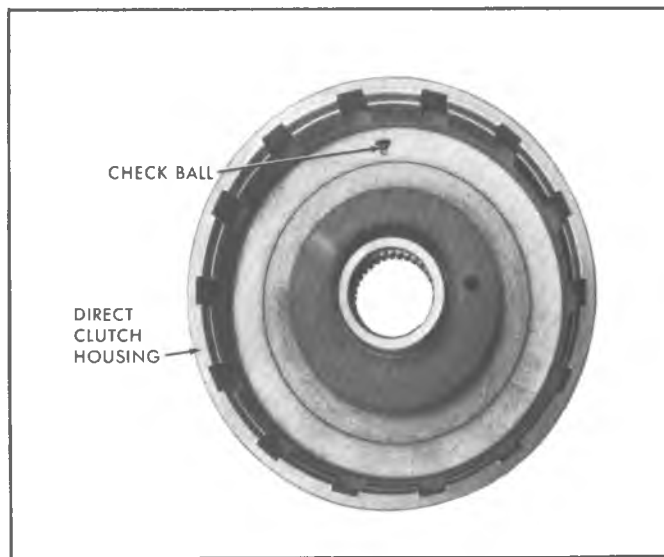

Fig. 10B—Direct Clutch Housing
**CAUTION:** *Production built transmissions now use a direct clutch housing with a check ball (see Fig. 10B). If the housing requires replacement and the replacement housing does not contain a check ball, replace the direct clutch piston with the service piston which has a check ball (Models CL and CZ service piston has 2 check balls). EITHER THE DIRECT CLUTCH HOUSING AND/OR THE PISTON MUST CONTAIN A CHECK BALL(S).*